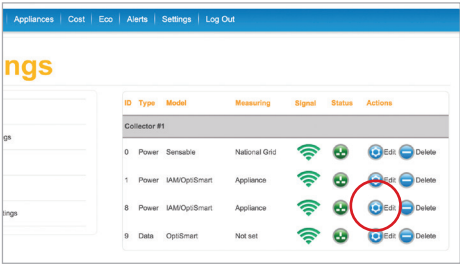

fig.27
- 8. If you are using the Meter Sensor to monitor power generation, then find ID 8 and click Edit (fig.27).